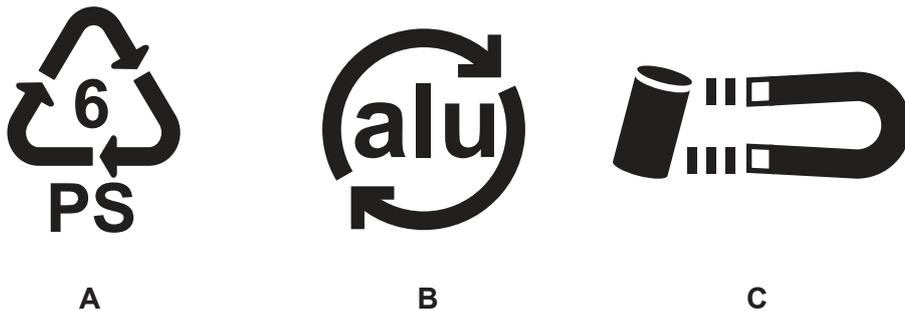

Fig. 8.1
- 8 Fig. 8.1 shows three recycling symbols, A, B and C, that relate to different materials.